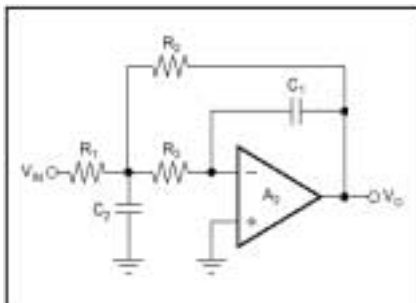

Figure 8. MFB Complex Pole-Pair Section. (Gain = $-R_2/R_1$)
- Multiple Feedback (MFB)—shown in Figure 8.
Figure 8 circuit, $K=R_2/R_1$